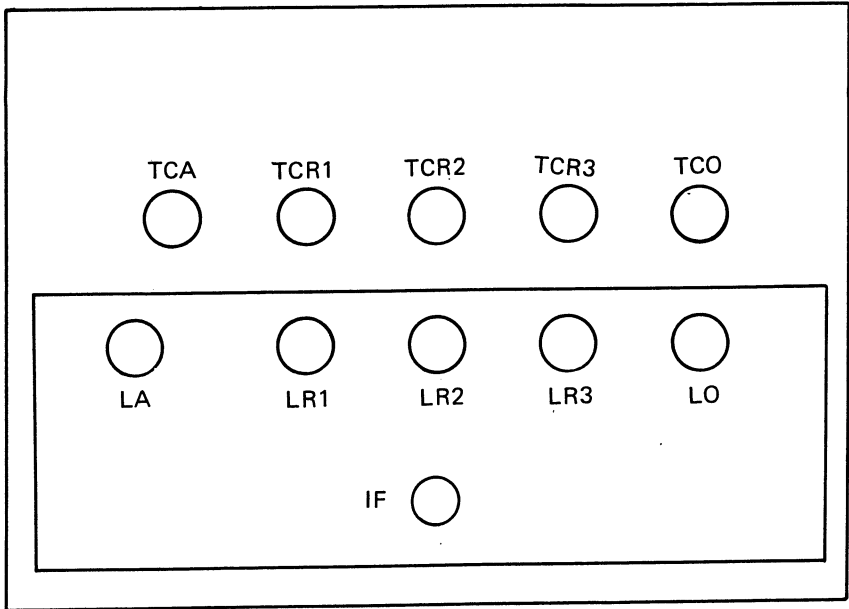

Figure 4. FM FRONT END (TOP VIEW)
5. Attenuate generator output for $0 \sim 6$ dB. Tune the unit for 98 MHz modulated signal; then adjust "IF" transformer located in Front End (Figure 4) until M2 indicates maximum deflection.